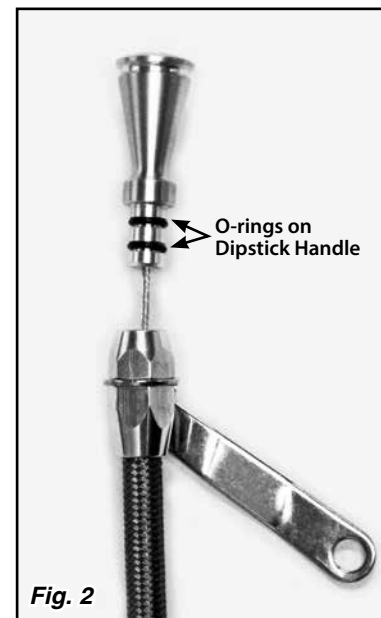
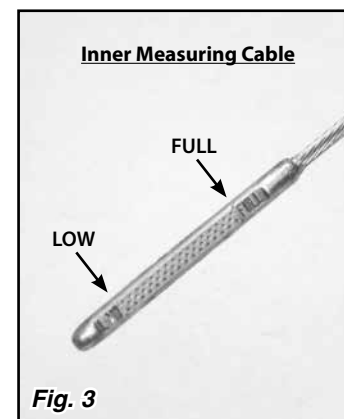

Fig. 2
Fig. 3
Step 4: Lightly lubricate the O-rings on the dipstick handle with engine oil. **Fig. 2** Insert the handle and inner measuring cable fully into the dipstick tube assembly. Fill the engine with the proper amount of oil for your specific application. Verify the oil level is at the FULL mark on the inner measuring cable. **Fig. 3** If it is not, call Lokar Technical Support for assistance. If the oil level reads correctly, then return the handle and inner measuring cable into the dipstick tube assembly.